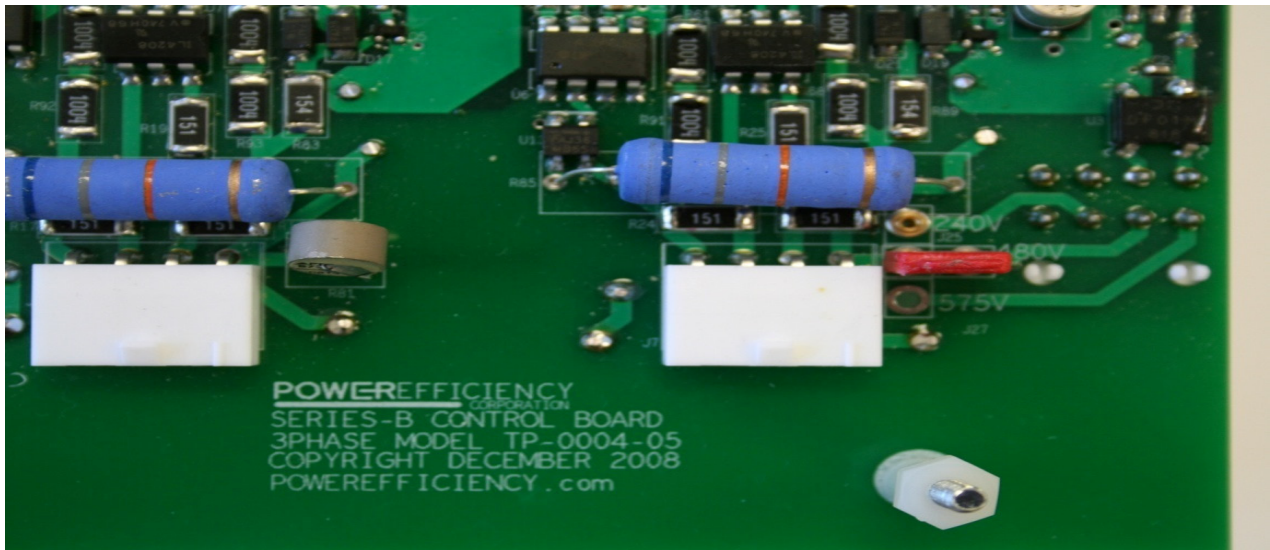

Figure 10 - Voltage Selection Jumper
- The user should select the correct voltage that will be used by placing the RED Voltage Selection Jumper (See Figure 10) in the correct location.